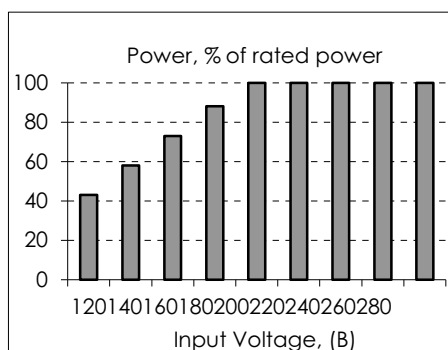

Fig.2
The lower the input voltage, the lower the max output voltage; this dependence is shown in Figure 2.
6. Wait until the delay is over (6 sec.) and, using Digital Indicator of voltage values **(2)** and button **(3)**, make sure that the power is supplied. (It is recommended to pay attention to the Incoming Voltage value. Connecting high- power load with low mains voltage may cause stabilizer overload, see Fig.2).